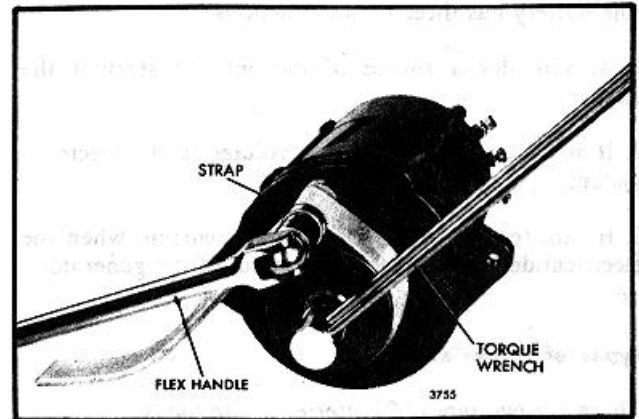

Fig. 16 - Tighten Alternator Pulley Retaining Nut
1. Install the drive pulley, if it was removed. Tighten the pulley retaining nut to 50-60 lb-ft (68-81 Nm) torque (Fig. 16).